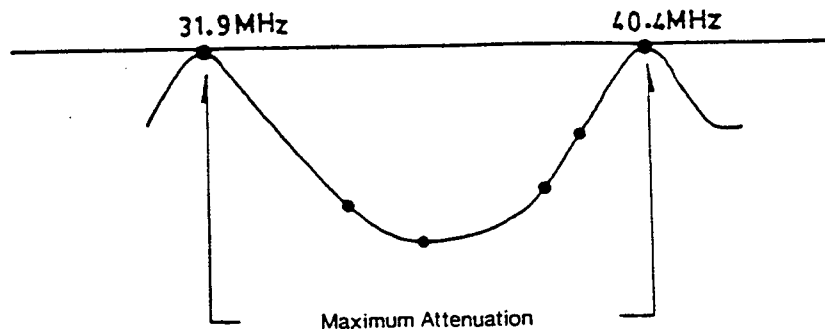

Fig. 10. 31.9, 40.4MHz Traps Response Curve
4. Tune T105 for maximum attenuation of 31.9MHz as shown in Fig.10.
5. Tune T106 for maximum attenuation of 40.4MHz as shown in Fig.10.